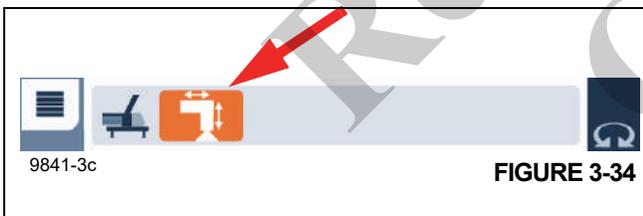

FIGURE 3-34
- A selected menu is marked in orange color and can be opened (Figure 3-34).